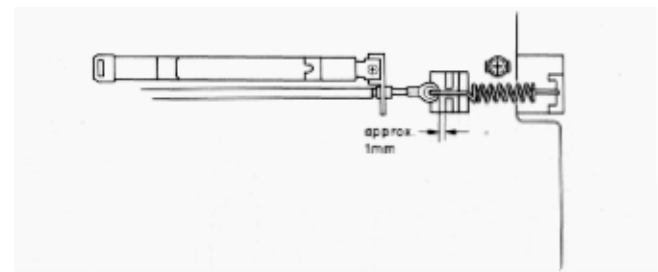

Fig. 5.17.2
- (3) Set the N-481 in record and pause mode. Check to insure that the gap between the top of the wire and the Record Spring Holder is approx. 1 mm as shown in Fig. 5.17.2. (Check that the Record Switch is in record position.)
- (4) Upon completion of the above adjustments, apply a quantity of lock tight paint.